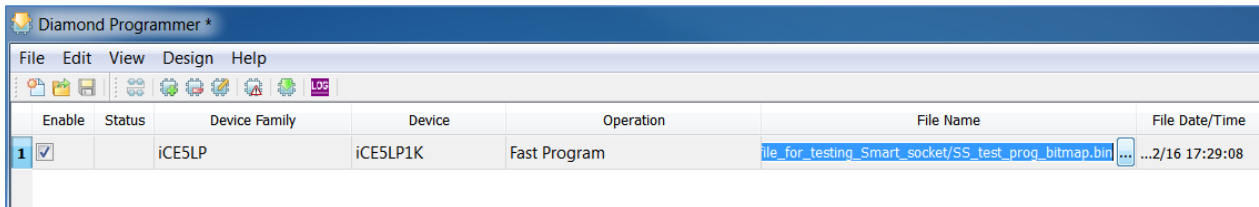

Figure 6.25. iCE40 Family – Select the Programming File
3. Select the programming file to program the iCE40 device by double clicking the **Browse** button  under **File Name** as shown in Figure 6.25.